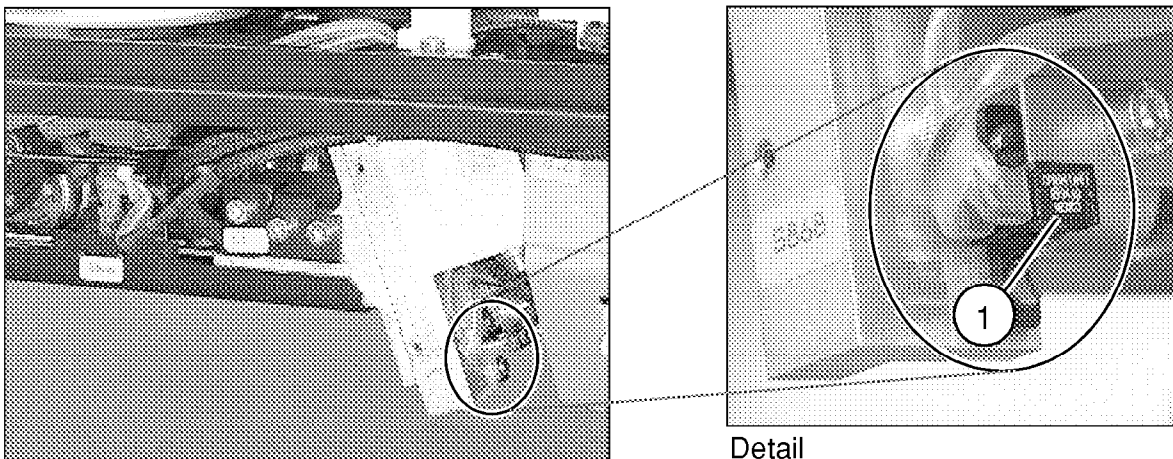

Fig. 13
- Replace light barrier S868 (1/Fig.13).